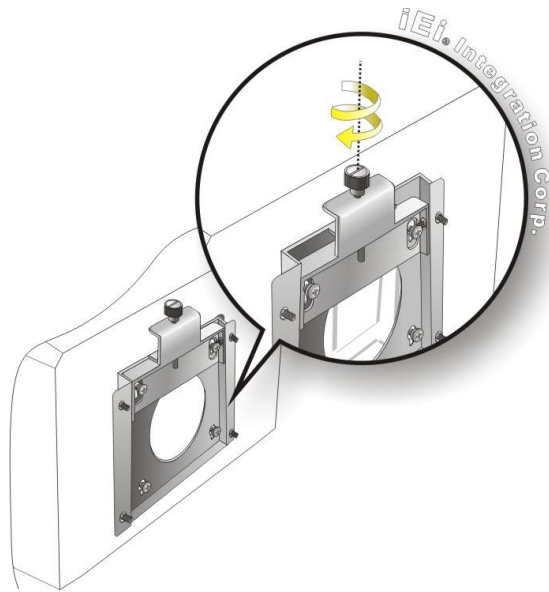

Figure 3-8: Secure the Panel PC
Step 9: Secure the panel PC by fastening the retention screw of the wall-mounting bracket (**Figure 3-8**).